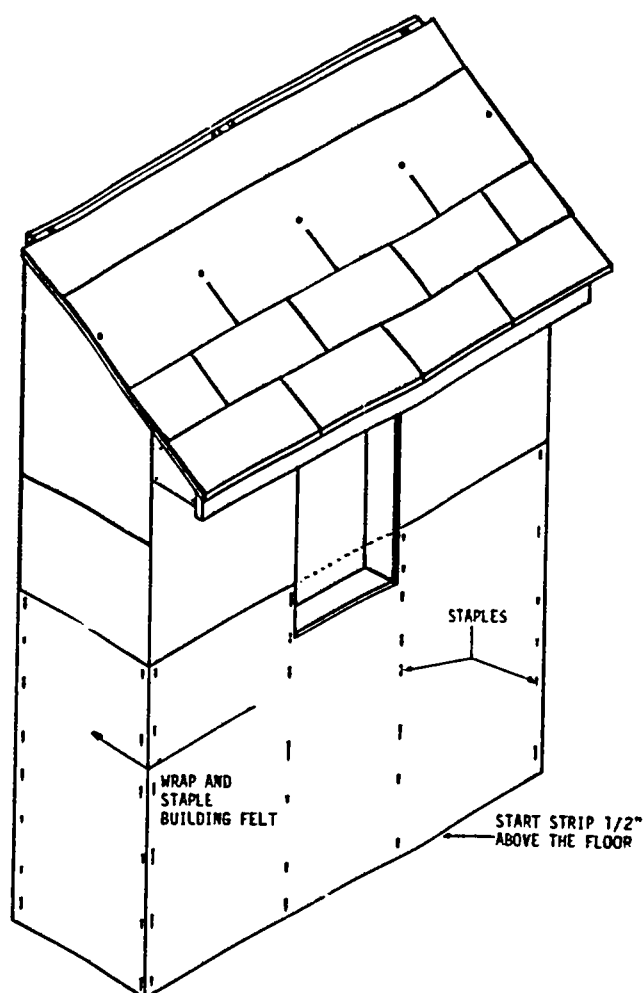

Fig. 58A-2. Bottom Strip of Building Felt Stapled to Front and Side Walls
- against the soffit nailer as in Fig. 58A-3. It should overlap the first strip about 3". Staple it in place, starting at the top right corner.